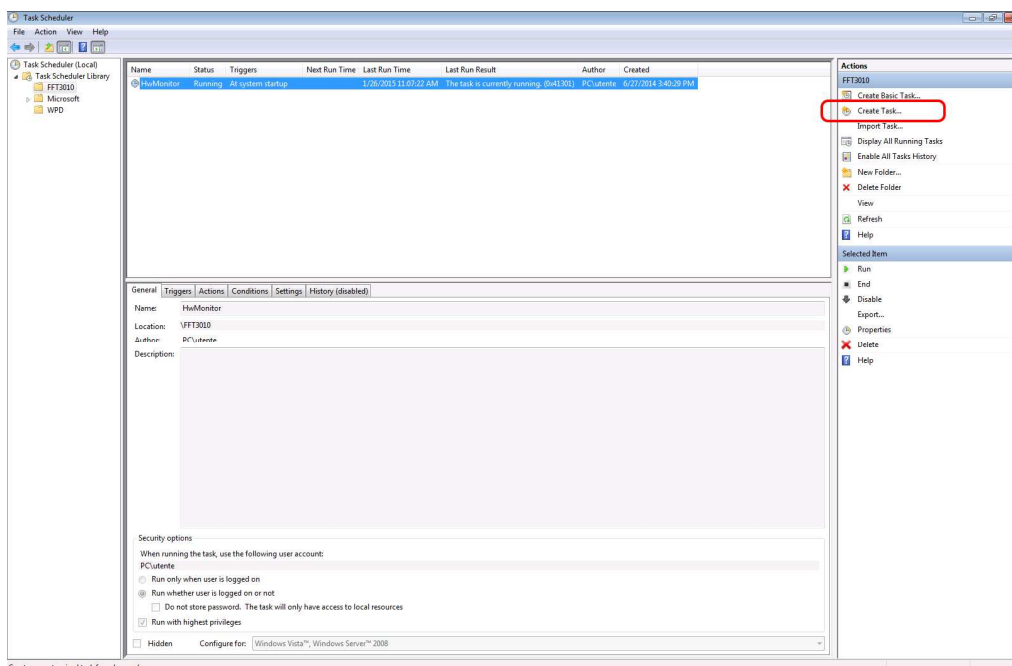

Fig. C.24: Creation of a new task
STEP 2 – Create a new task (*Create Task...*) either with mouse right-click or with the command in the right panel (Fig. C.24).